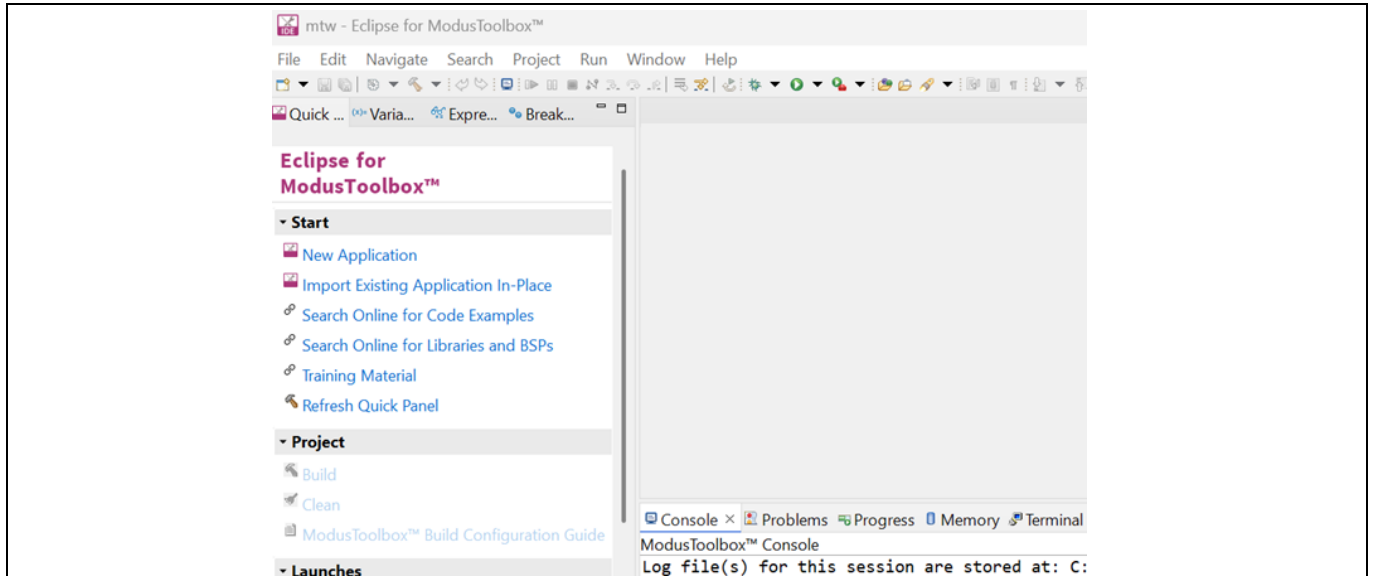

Figure 5 Eclipse IDE after ModusToolbox™ launch
3. Launch opens a new ModusToolbox™ workspace as shown in Figure 5.